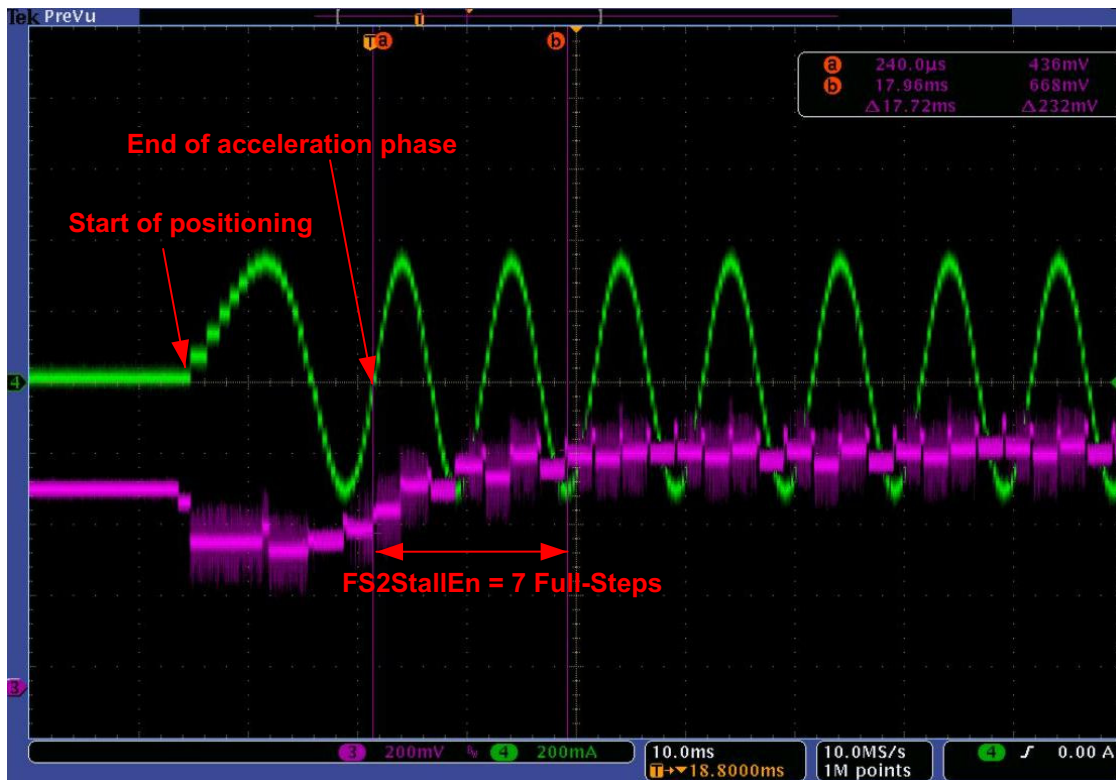

Figure 32. Observation of BEMF on SWI-Pin
- Step 5: Do a SetPosition and observe the BEMF on the SWI-pin during the acceleration phase and the beginning of the maximum velocity phase. Figure 32 displays an oscilloscope plot of the observed BEMF on the SWI-pin. Next settings where taken: